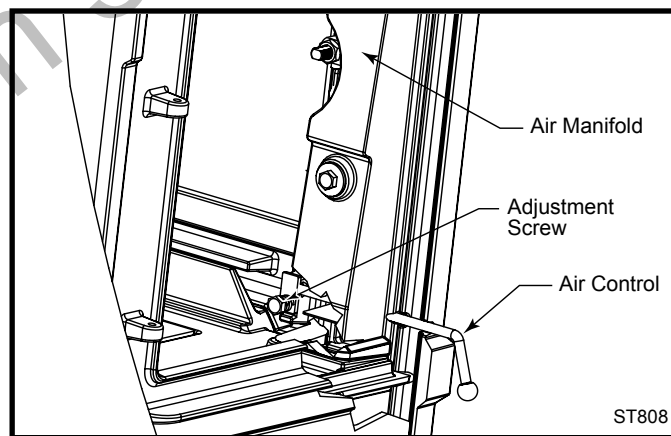

Fig. 34 Primary air control adjustment.
Over time, the air control may tighten or loosen. To adjust the tension on the control, let the stove cool to room temperature. Open the side-loading door and look in toward the inner side of the front panel of the stove. (Fig. 34) Locate the lower hex head bolts (A) on the primary air manifold rods on either side of the door. Adjust with a  $\frac{7}{16}$ " wrench.
- Inspect for and remove ash build-up behind the combustion package. This should be done in conjunction with annual cleaning of the chimney connector since this inspection is most conveniently done through the flue collar opening. Inspect the passages to either side of the combustion package (a mirror will be helpful) and vacuum away ash using a flexible vacuum hose inserted into each passage. Care should be taken not to damage the white fibrous material in this rear chamber. (Fig. 34)